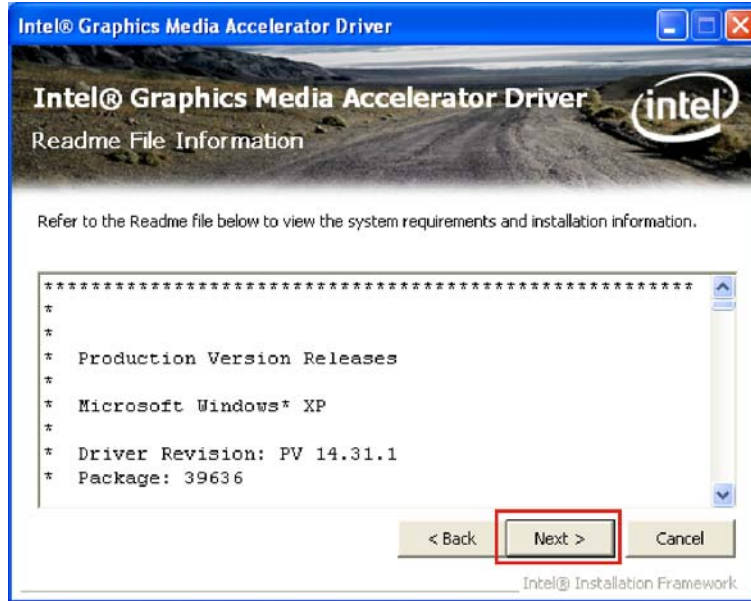

Figure 6-12: GMA Driver Installing Notice
Step 10: The Readme file appears (Figure 6-12).